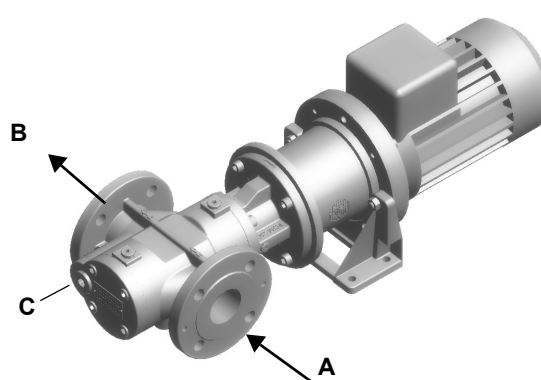

Fig. 4 - Kral
- Cast-iron boilers, three pass flue boilers (with the first pass in the rear part): the blast tube must protrude no more than **Dist** = 100 mm into the combustion chamber. (Fig. 4)